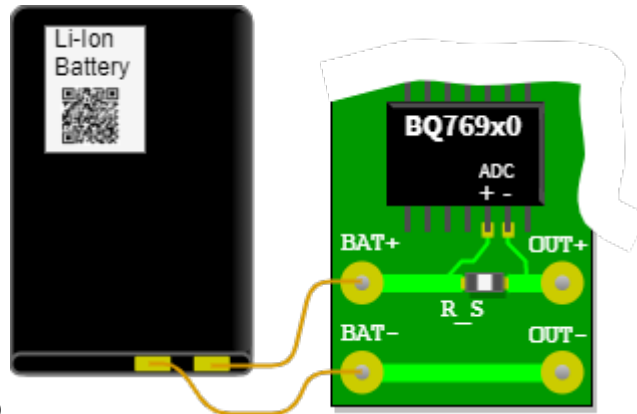

Fig. 32: Sketch of the setup
- The battery monitor BQ769x0 measures the charge and discharge currents of a lithium-ion battery by means of the voltage across a measuring resistor (shunt). In figure 32 the analog-to-digital converter (ADC) of this chip is connected to the shunt R_S via the circuit board. Through the shunt the discharge current flows from the battery connection $BAT+$ to $OUT+$ and via $OUT-$ back to $BAT-$. The shunt shall be designed so that the bipolar measurement signals have a voltage level in the range of -0.20 V to $+0.20\text{ V}$. The analog-to-digital converter has a resolution of $15\mu\text{V}$. The currents can be used to count the charge in the battery to determine the state of charge (SOC).